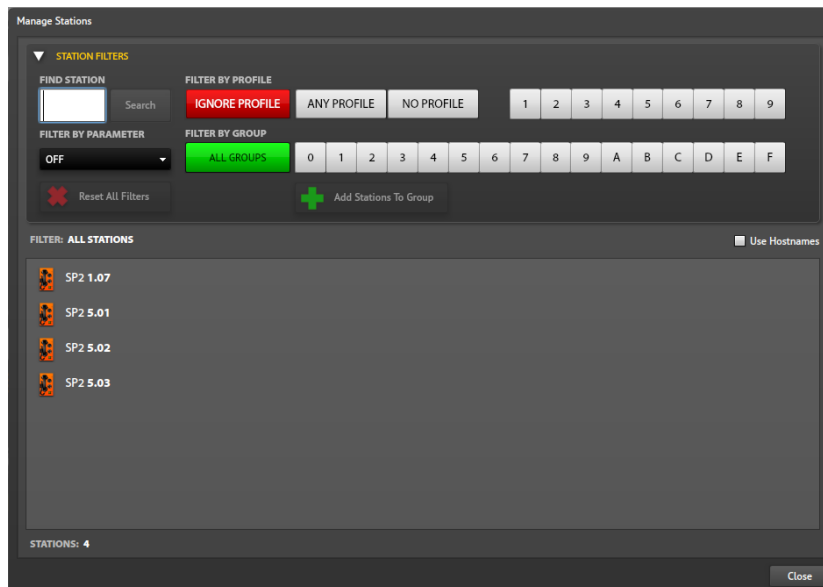

Figure 121. Manage Stations
**Station List Button**—opens the **MANAGE STATIONS** screen (see **Figure 121**). This screen displays filtered lists of station identifiers in the E3 SP2 configuration. All stations in the configuration appear in the list of stations when no filter is applied. The list displays the SP2 stations with the **UNIT** parameter preceding the station identifier. Double click any station in the list to open the **STATION VIEW** pane for that station.